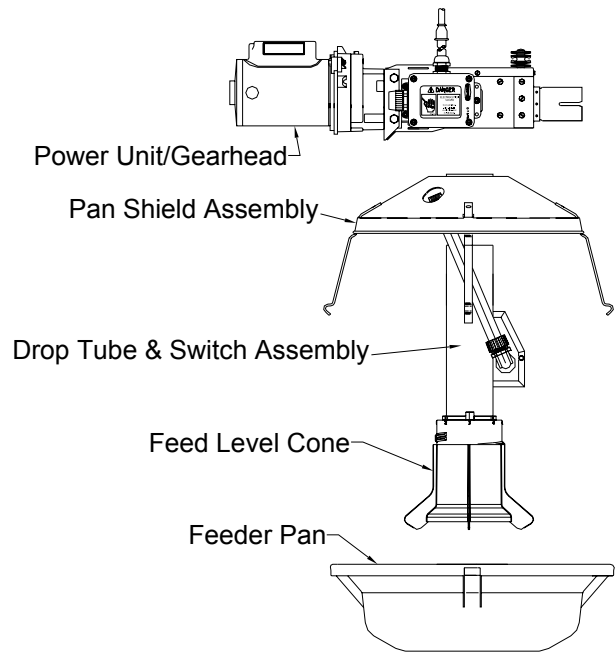

Figure 31. Drop Tube and Switch Assembly
5. Insert the drop tube and switch assembly through the pan shield from the bottom, see **figure 31**. The hole in the pan shield should be located on the same side of the drop tube as the switch cord and directly under the white box on the body assembly. Bolt the drop tube to the body assembly. The switch on the drop tube should be mounted opposite the power unit.